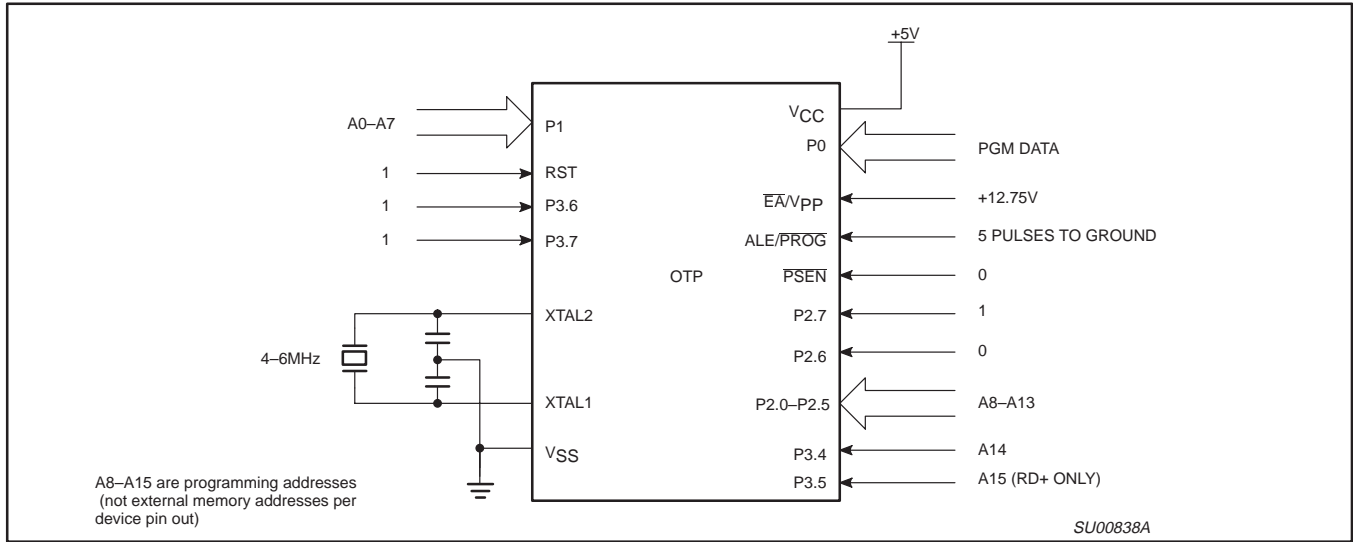
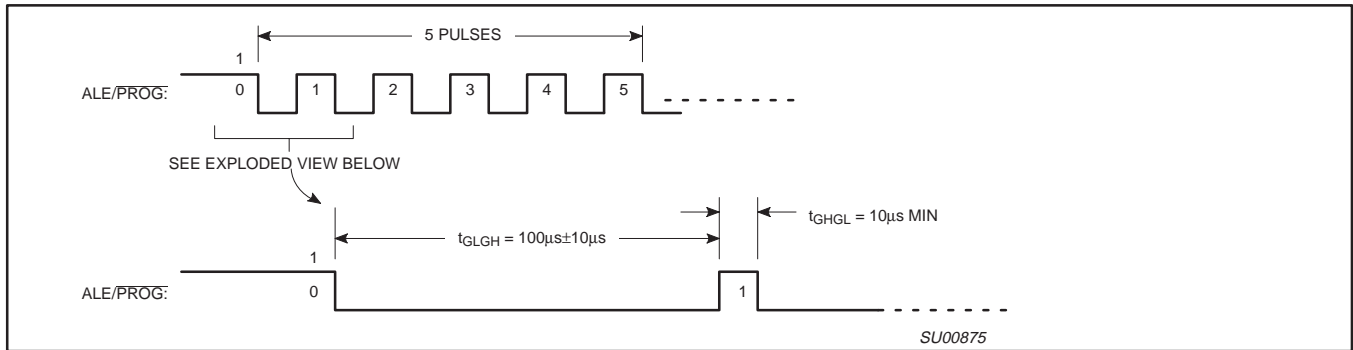
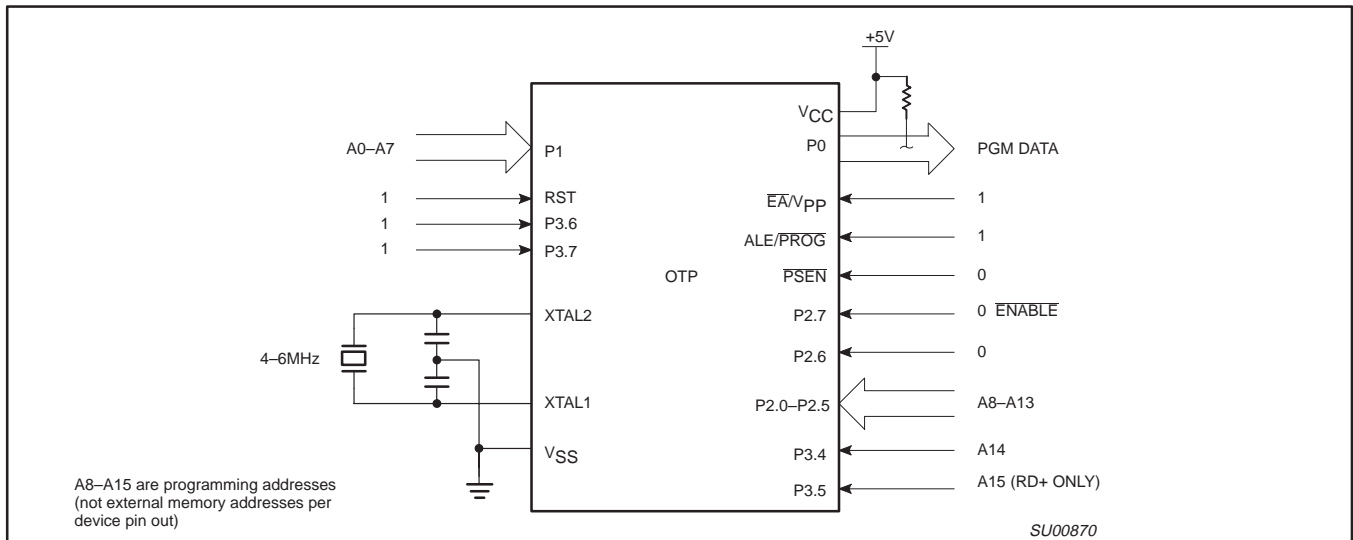

Figure 41. Programming Configuration
Figure 42. PROG Waveform
Figure 43. Program Verification
Table 9 shows the logic levels for reading the signature byte, and for programming the program memory, the encryption table, and the security bits. The circuit configuration and waveforms for quick-pulse programming are shown in Figures 41 and 42. Figure 43 shows the circuit configuration for normal program memory verification.
The setup for microcontroller quick-pulse programming is shown in Figure 41. Note that the device is running with a 4 to 6MHz oscillator. The reason the oscillator needs to be running is that the device is executing internal address and program data transfers.
The address of the EPROM location to be programmed is applied to ports 1 and 2, as shown in Figure 41. The code byte to be programmed into that location is applied to port 0. RST,  $\overline{PSEN}$  and pins of ports 2 and 3 specified in Table 9 are held at the 'Program Code Data' levels indicated in Table 9. The ALE/PROG is pulsed low 5 times as shown in Figure 42.
address of the program memory locations to be read is applied to ports 1 and 2 as shown in Figure 43. The other pins are held at the 'Verify Code Data' levels indicated in Table 9. The contents of the address location will be emitted on port 0. External pull-ups are required on port 0 for this operation.
- \* FOR PROGRAMMING CONFIGURATION SEE FIGURE 41.
FOR VERIFICATION CONDITIONS SEE FIGURE 43.